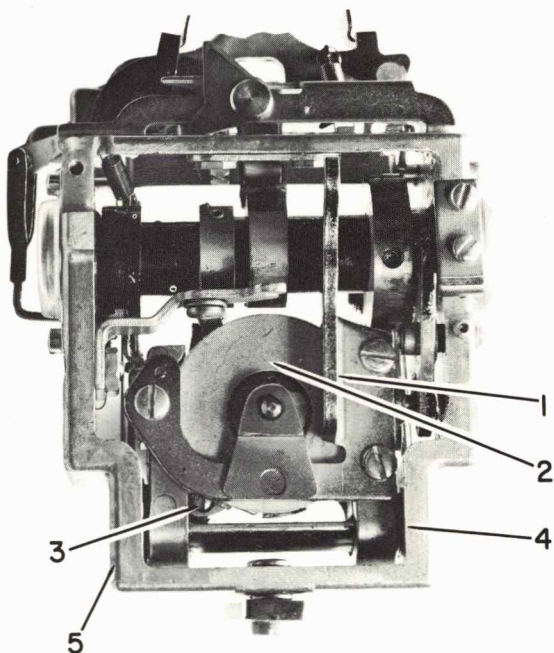

FIGURE 55. Carrier and Rocker Removal
14. Remove anvil striker (#1, Figure 55).
15. Remove rotate spring, cage and pulley (#2, Figure 55).
16. Remove tape guide (#3, Figure 55).
17. Remove "C" clip on rocker shaft (#4, Figure 55).
18. Loosen rocker shaft set screw and remove rocker shaft (#5, Figure 55).